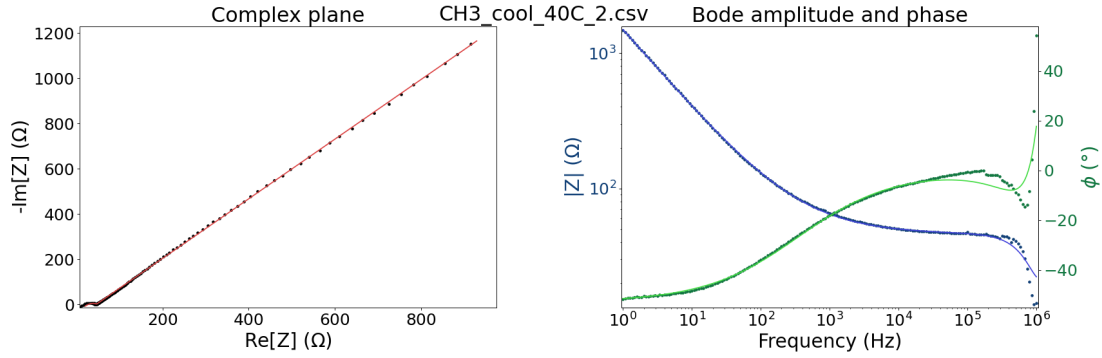

Figure 20: Refinement of the fit of the $\text{RbOH} \cdot x\text{H}_2\text{O}$ spectrum.
9. To finalize the fit, a refinement is in order. Using **Calculate>Simple refinement**, Figure 20 is obtained. Apparently, the change in step (8) was not an improvement to the overall fit.